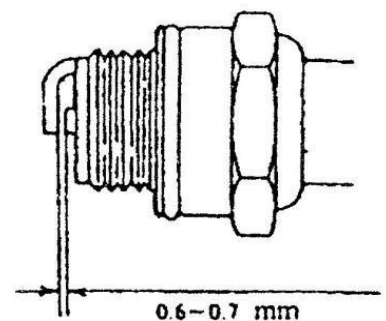

Fig. 16
- (1) After daily use, wash the air filter, as chemicals adhering to the sponge can reduce engine power. Pay special attention to this!
- (2) After washing the sponge with petrol, it should be reattached.
- (3) The correct gap between the spark plug electrodes should be 0.6-0.7mm, check it often; if it is too large or too small, adjust as shown in fig.16.
(4) The compatible spark plug for this device is marked 4106J. Do not use other models. If it needs to be replaced, it can be purchased at a garden equipment service or a store selling agricultural or gardening tools.